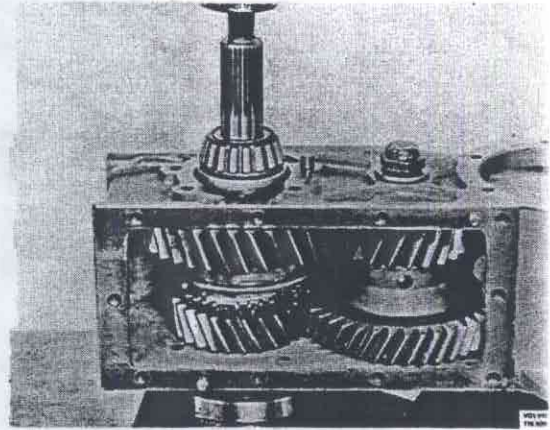

Fig. 43-191. Pressing in output shaft
6. Fit the output shaft, rotate the shaft so that the lands on the shaft enter the hub. Press in the shaft, Fig. 43-191.